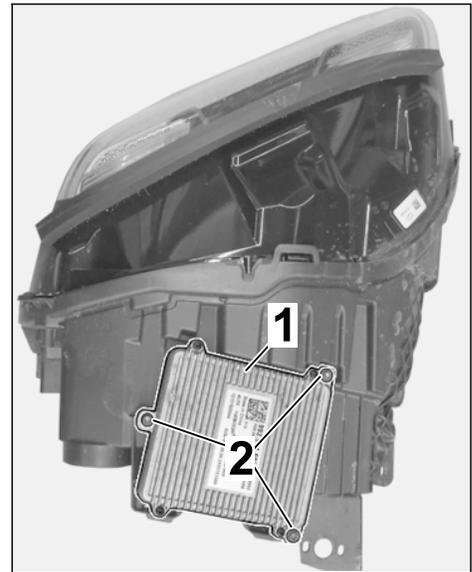

Figure 3
- 2.1 Convert headlight control unit (⇒ *Figure 3*, ⇒ *Workshop Manual '941619 Removing and installing headlight control unit*)